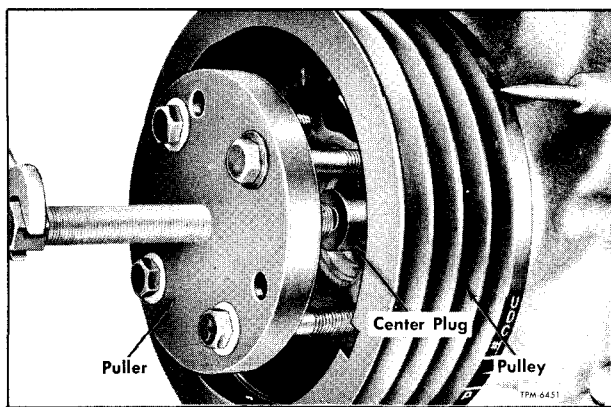
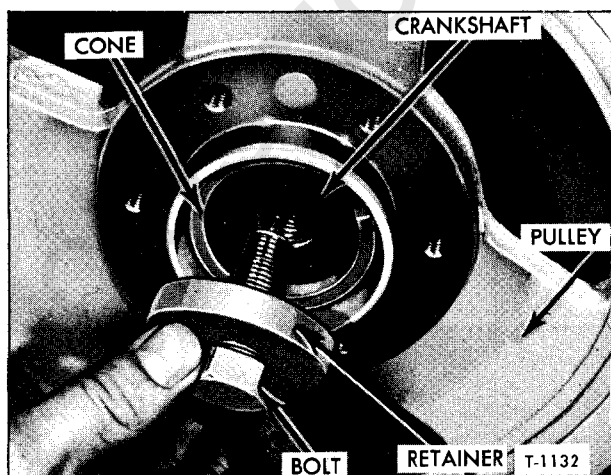

Figure 3—Crankshaft Pulley Removal (Typical)
Figure 4—Crankshaft Damper Retaining Parts (Typical)
3. Remove bolt and thick washer, then assemble special puller and center plug in manner shown in figure 3. Turn puller screw to remove pulley hub or damper from crankshaft. A tapered cone (fig. 4) is used in addition to retainer washer on engines having a crankshaft damper assembly, or Tilt cab models with crankshaft pulley hub.
4. Remove installer, then referring to figure 4, locate cone (if used) at hub, and install retaining washer and bolt. Tighten retaining bolt to "Specifications" at end of this section.